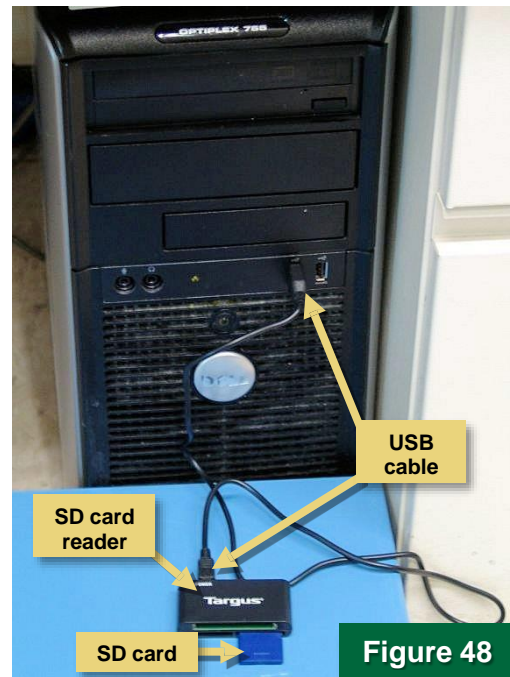

Figure 48
1. Plug the provided SD card reader into the computer using a USB cable (Figure 48).